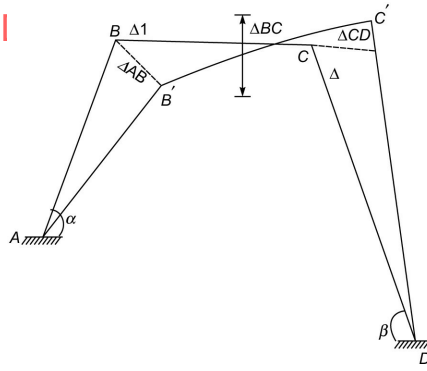

Fig. 6.13 Deformed skew frame
* In case of skew frames (Ref. Fig. 6.13)